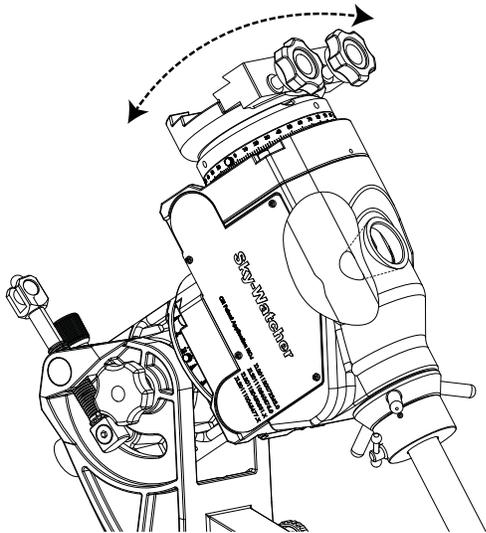

Fig. 3.1a
3. Remove the polar scope cap on the mount, loosen the Dec. clutch, and rotate the Dec. axis to allow the hole on the Dec. shaft to fully open for the polar scope and then lock the Dec. clutch again. (Fig. 3.1a & Fig. 3.1b)